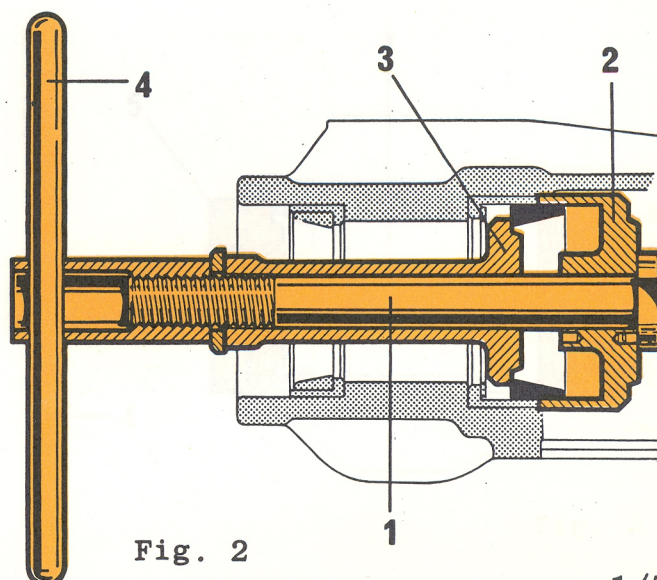

Fig. 2
- 5 Fit the handle "4" to the screw "1" and rotate it to withdraw the bearing outer race (see fig. 2).